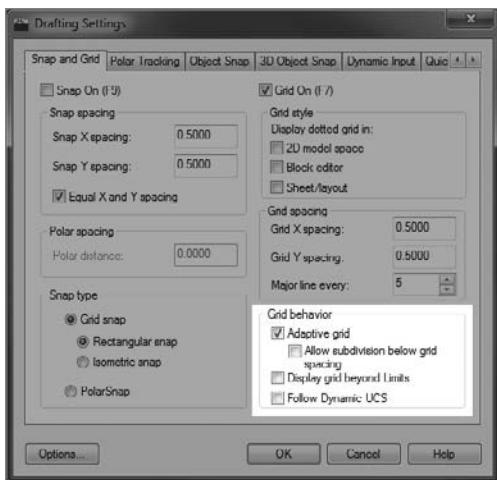

FIGURE 3.8 The Snap And Grid tab of the Drafting Settings dialog box
5. The Snap And Grid tab should be active (see Figure 3.8). If it's not, click the tab.